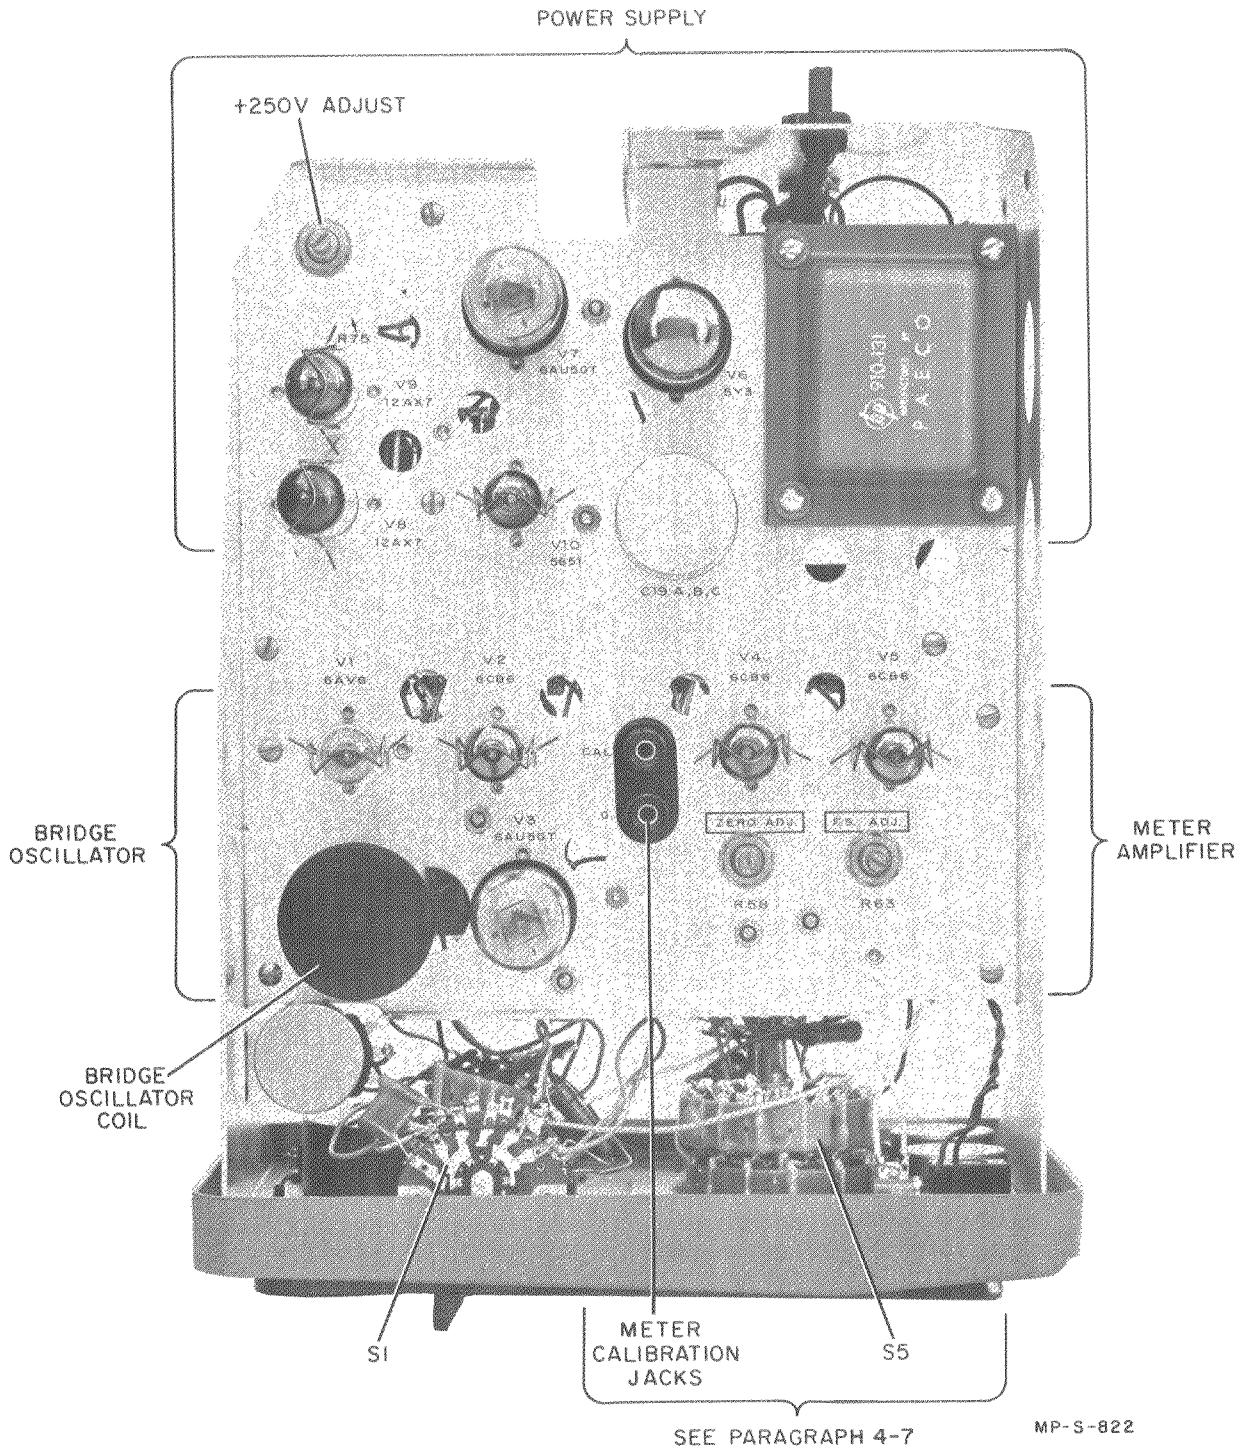

Figure 4-1. Right Side View Cover Removed
b. Set the POWER RANGE to 1 MW and measure the ac voltage between chassis and the purple lead located on the resistor board at the top of the instrument. This point is indicated in figure 4-1 and is shown as the 3 volt test point on the schematic. Set the BIAS CURRENT and ZERO SET controls to obtain a voltage of 3.00 volts at this point.
c. Shift the ac VTVM to the adjacent green lead on the same resistor board. This point is the 1 volt test point indicated on the schematic and in figure 4-1. The ac VTVM should indicate between 1.01 and 0.99 volts, if it does not further check is necessary. If the voltage does not fall within these limits continue.